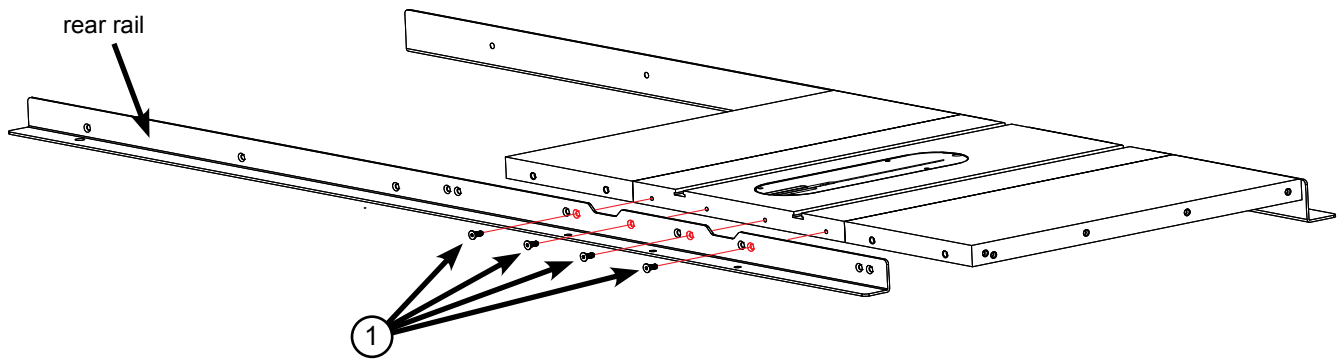

Fig. 4
- Begin mounting the rear rail (the shorter of the two rails) to the rear edge of your saw by centering the notches in the rail with the two miter slots in the table and aligning the left-most hole between the notches with the corresponding hole in the rear edge of the table. There are three holes in the rail between the notches, one solitary hole and two holes paired together, and the left-most hole is the solitary hole. Not all the holes are used to mount the rail to your saw; different holes are used for different saws. Aligning the left-most hole aligns all the other holes used in mounting the rail to your saw. When the holes are aligned, mount the rail to the saw by threading an M8 x 16 countersunk socket head bolt into each of the four open holes in the rear edge of the table and tighten the bolts using a 5 mm hex key (see Fig. 4).